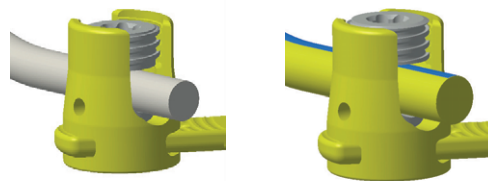

Fig. 15
- ▶ Visually double check that the set screw is fully seated, see Fig. 15. The set screw is located below the top of the receptacle after final tightening when using a \varnothing 3.5 mm rod, as shown on the left side of the image, see Fig. 15. The set screw is located plane with the top of the receptacle when using a \varnothing 4 mm rod, as shown on the right side of the image, see Fig. 15.